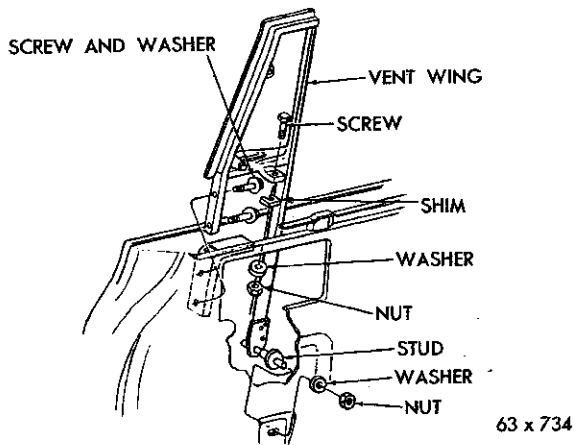

Fig. 17—Vent Glass Adjustment (Imperial)
- (1) Remove the inside remote control handle.
- (2) Remove the inside upholstery trim panel and weather shield.
- (3) Close the door and observe the direction the vent frame must be moved to align the frame with the “A” post and also make a good weather seal at the roof rail weather seal.
- (4) Loosen the two forward attaching screws and the division bar adjusting stud locking nut and washer (Figure 17).
- (5) Run the door glass to the down position and move the vent frame to the fore or aft position to make the correct alignment with the “A” post.
- (6) Holding the vent frame in position, tighten the two forward adjusting screws to 40 inch pounds torque.
- (7) To move the top of the vent frame inboard, turn the division bar lower adjusting stud counter-clockwise. To move the top of the vent frame out-